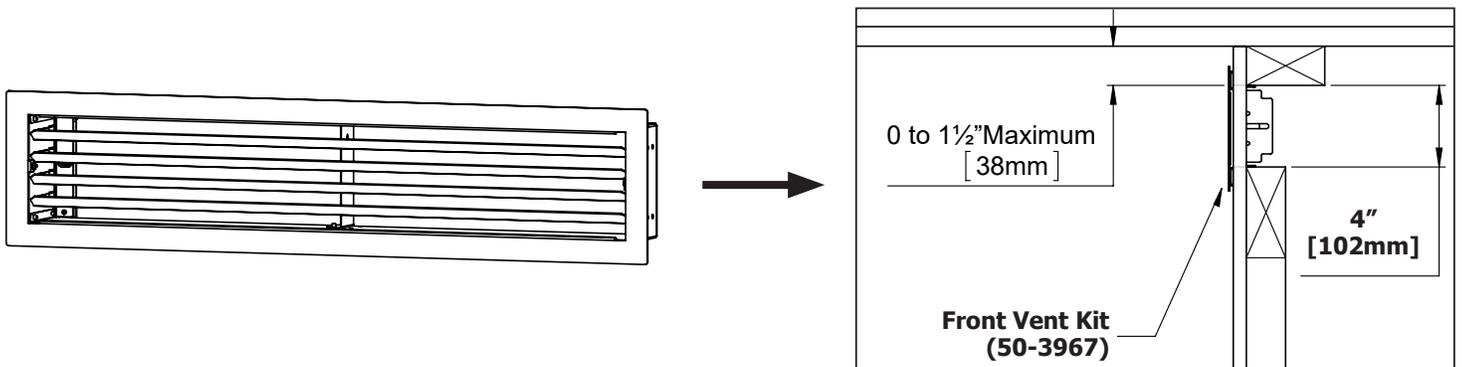

Figure 2: Front Vent Kit
**Option 2: Front Vent Kit (50-3967)** - If desired, an optional Front Vent Kit may be used to accentuate the front discharge (figure 2). This installation will also cover the edge of the finishing material at the cutout. A **64 3/4" [1644mm] x 4" [102mm] framed opening** will be required. The top of the cutout cannot be more than 1 1/2" [38mm] from the top of the chase. Refer to the Front Vent Kit installation manual for further instructions and details.